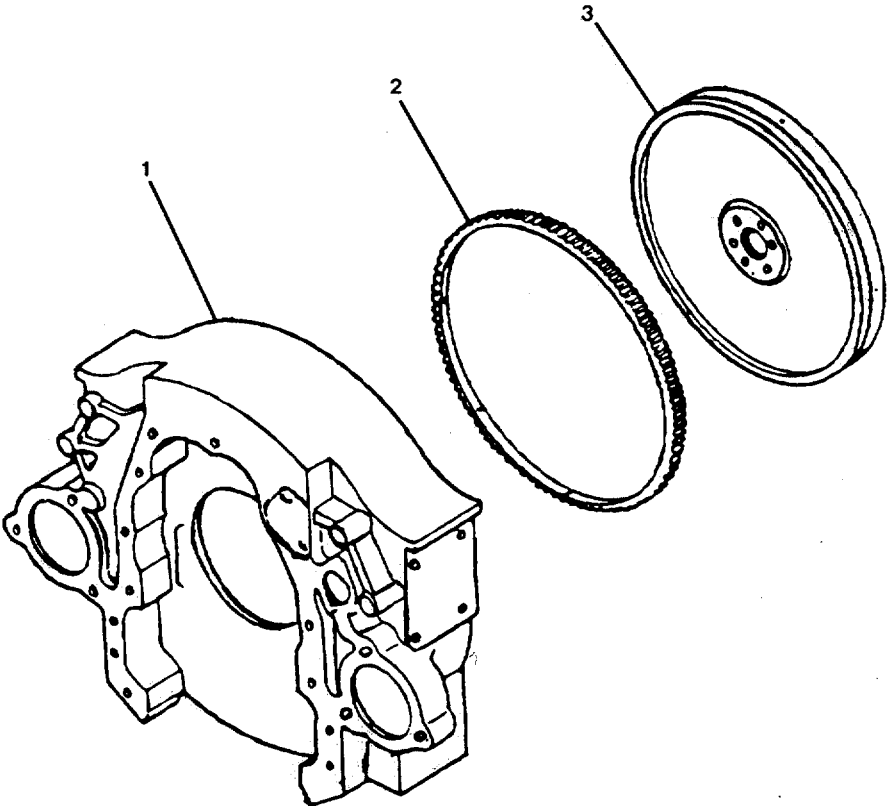

FIGURE 4-41. Flywheel and Housing Group.
- (1) Remove the spur gear (2, FIGURE 4-41) from the flywheel (3) as follows.
Refer to FIGURE 4-41.